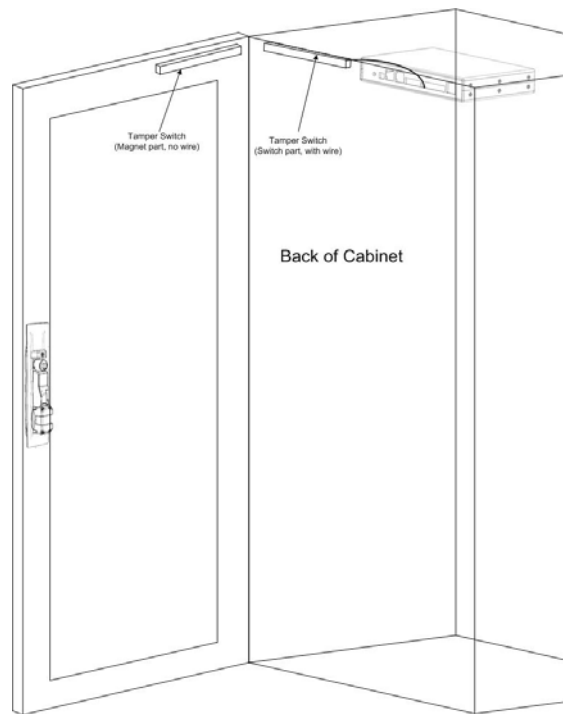

Figure 16
- To use one of the Tamper Switched follow the example show in Figure 16. The example connects to pins 1 & 2, additional Tamper connected Switched can be to any of the remaining pairs of pins.